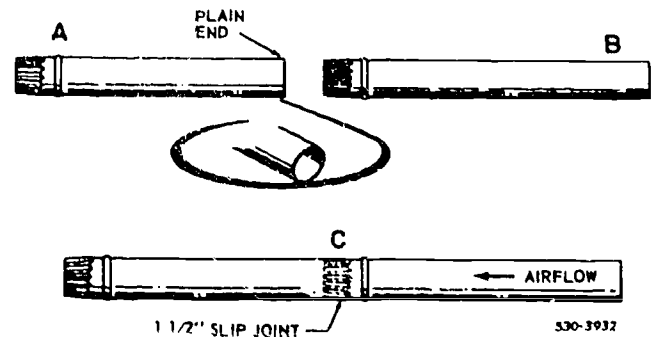

Figure 2-24. Joint connections for round duct.
**Slip-Joint.** Joint connections for round ducts are somewhat different from those for rectangular ducts. Figure 2-24 shows a 1½-inch slip joint. One end of each piece of pipe is crimped with a crimping machine, as you learned in Volume 2. A bead made with a beading machine strengthens the duct and helps align the joints during installation. This connection is sometimes called a slip joint and you assemble it by slipping the crimped end into the plain end of another joint until the bead is flush with the plain end. The slip joint is fastened together with sheet metal screws or rivets, and the airflow must be in the direction indicated in view C.